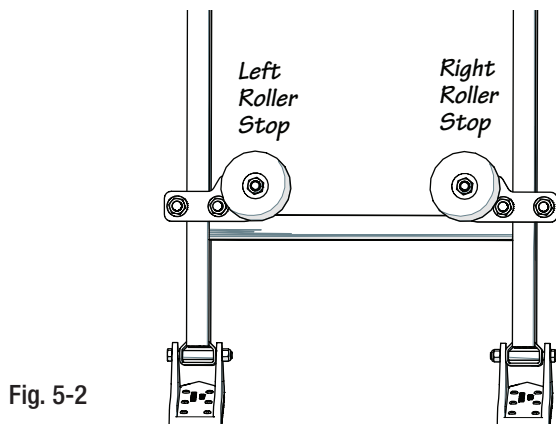
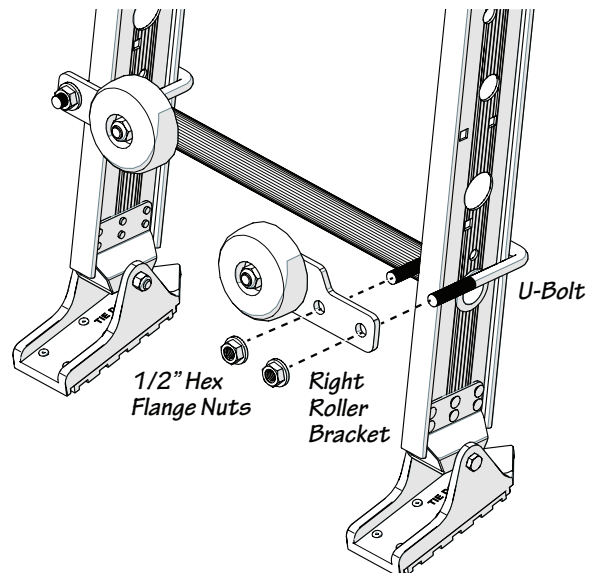

Fig. 5-2
Fig. 5-3
- The u-bolt will rest on the lowest ladder rung. Slide a lower roller stop bracket over the u-bolt shown in Fig 5-3. Make sure the roller is between the ladder sides with the amber roll facing upward see Fig. 5-2.